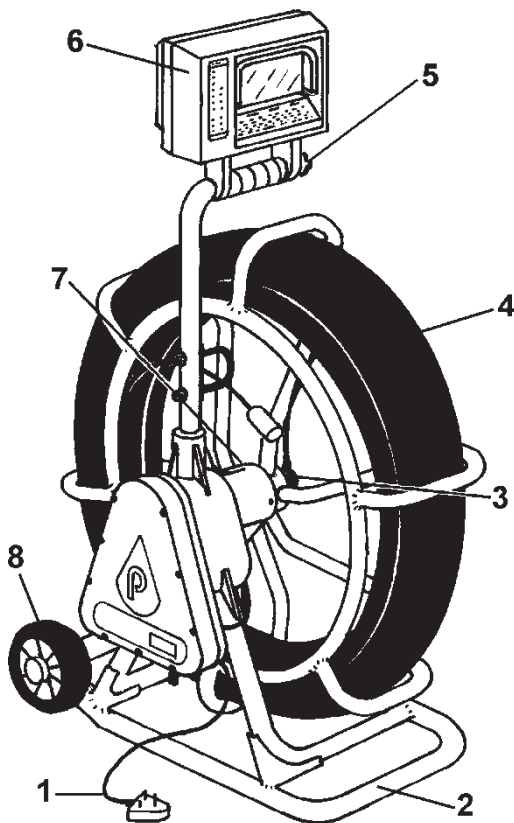

Figure 2.1 P571 flexicoiler - Preparation
1. Loosen, but do not remove, the M3x5 socket head grub screws in the camera hose locking ring (3) at the end of the camera. (The screws are identified as Item 4 in Figure 2.1.)
3. Grasp the hose assembly around the spring and pull out the pogo block (2) from the rear of the camera. Use a straight pull and do not twist the block.